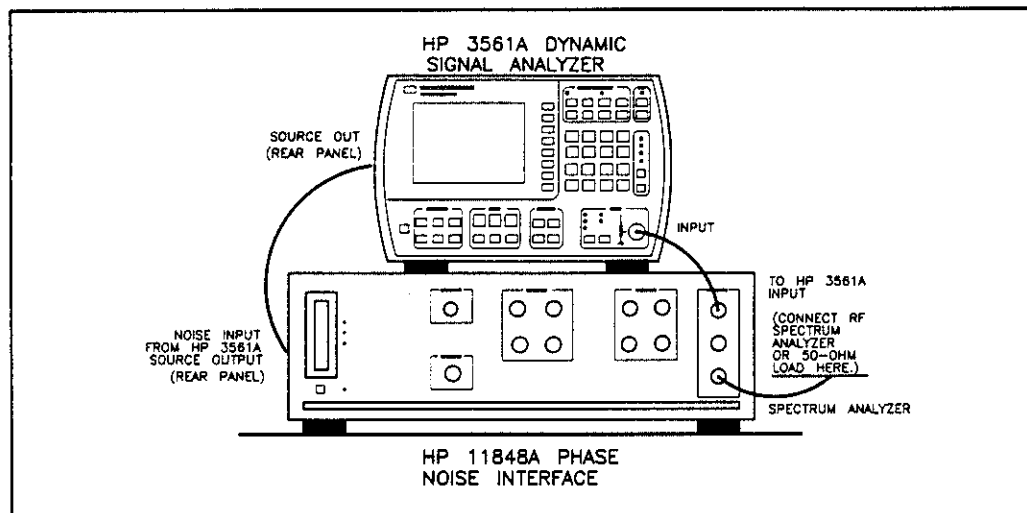

Figure 27. First Option 2 Calibration Setup
7. Connect the cables as prompted on the display and as shown in Figure 27.